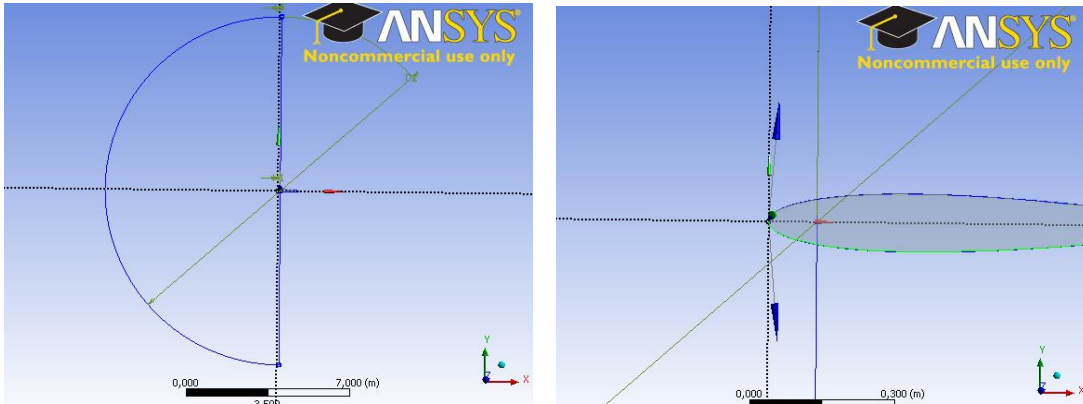

Fig. 1. Half of the cylinder (**Sketching mode**).
4. We are going to generate a fluid areas surrounding the airfoil. Add new **Sketch**  in the **XY**-Plane. Go to the **Sketching** mode. First, a half of the cylinder will be made in front of the airfoil (fig 1). Make a circle with origin at point (0,1 0,0 0,0). Set a circle diameter to 15m. Use **Dimensions** to specify the above parameters. Make a straight vertical line with length larger than the circle diameter. Place the vertical line at distance 0,1 from y-axis (use **Parallel** option to make the line parallel to y-axis). Use **Modify/Trim** option to remove the right half of the cylinder and the line segments above the circle.